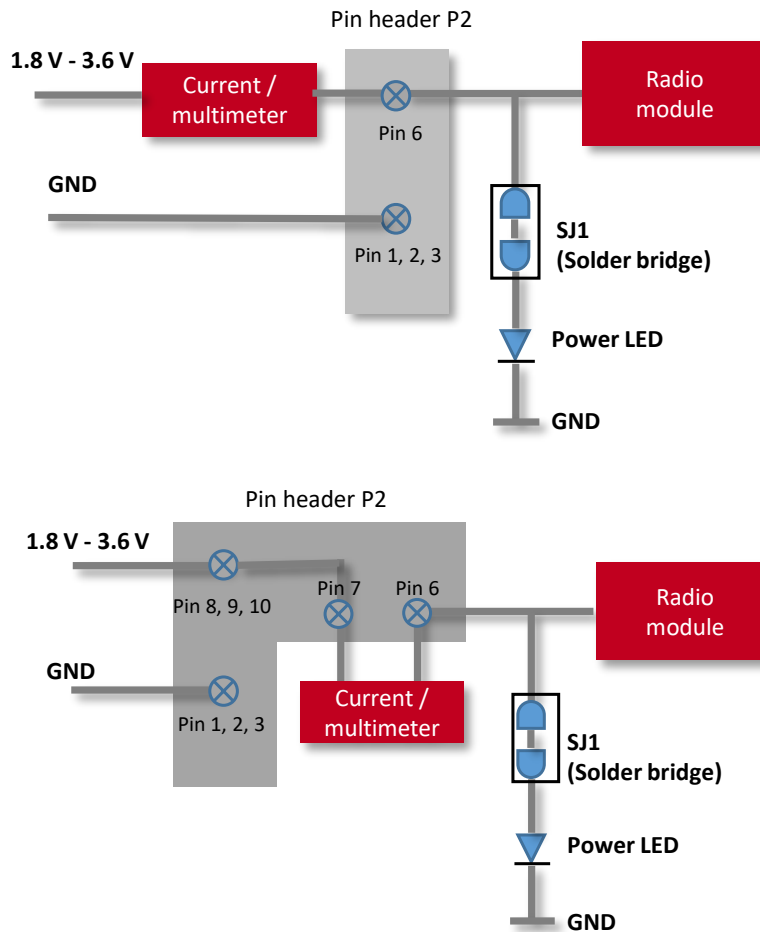

Figure 11: Power supply corresponding to table 22 No 3
1.8 V-3.6 V is connected either directly to Pin-6 ( *VDD\_MOD / V\_IN*) and the current is measured in series as illustrated in the upper picture of Figure 11.
Or it is connected to Pin 8-10 ( *V\_EXT / SUPPORT PINS*) and the current is measured on header P2 Pin 7 ( *V\_EXT / SUPPORT PINS*), which is internally connected with Pin 8, 9, 10 to Pin 6 ( *VDD\_MOD / V\_IN*) as illustrated in the lower picture of Figure 11. With SJ1 open the LED is not lighting but the current is measured corrected.